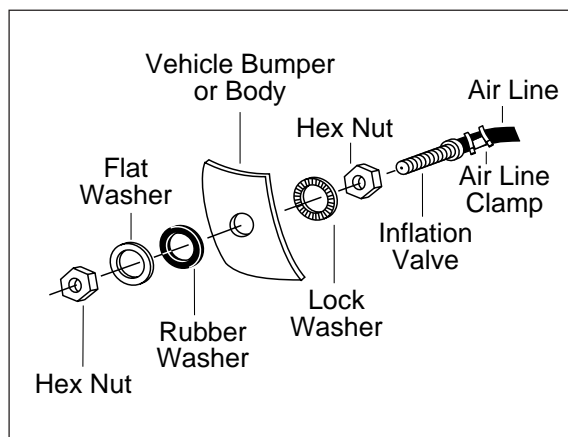

Figure 8
9. Drill $\frac{5}{16}$ " hole for inflation valve and mount as in illustration (Figure 8). Rubber washer is for outside weather seal.
7. Drill $\frac{5}{16}$ " hole for inflating valves and mount as illustrated. Rubber washer is for outside weather seal (Figure 8).